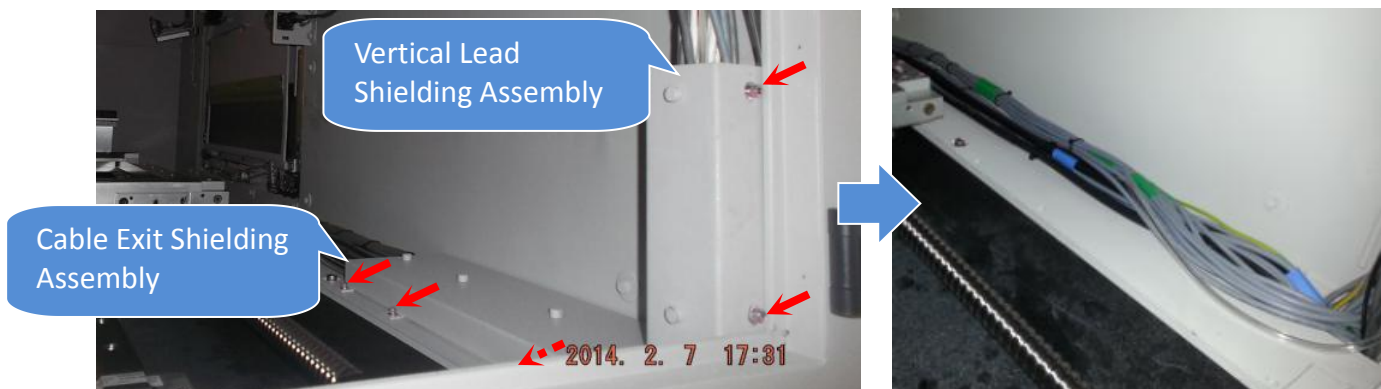

Figure 20 Shielding Assembly Removal
24. Open Rear side door & loosen 5 x Screws. Remove "Vertical Lead Shielding Assembly" and "Cable Exit Shielding Assembly" as below Figure 20